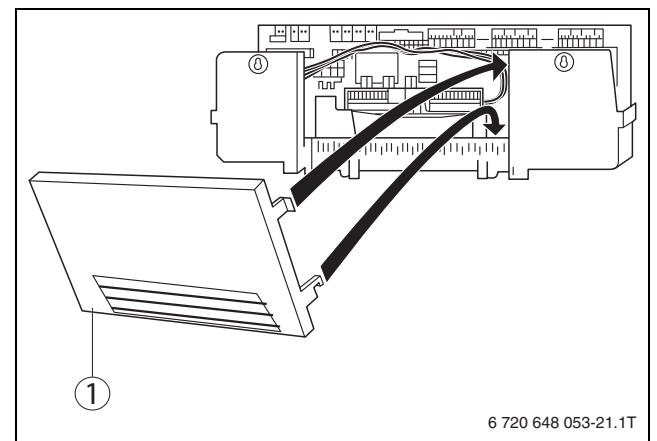

Fig. 27 Preparing the cable entry
- ▶ Knock out or cut out the appropriate parts from the back panel (→ fig. 27, [1]) as required.